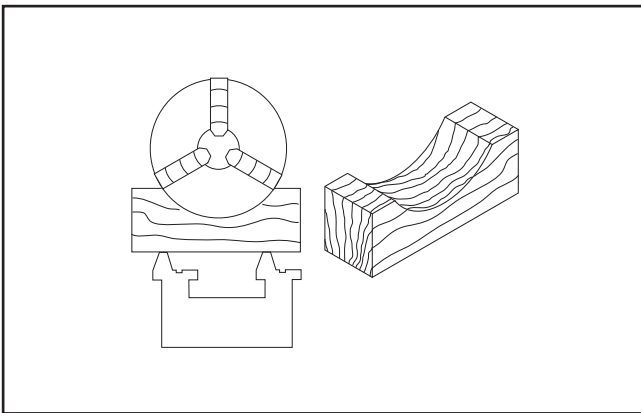

Figure 15. Simple chuck cradle made of scrap lumber.
2. Lay a chuck cradle or protective layer of plywood over the bedways to protect the precision ground surfaces from damage and to prevent fingers from being pinched (see **Figure 15**).